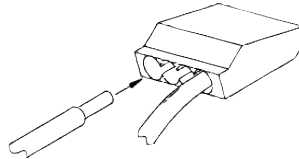

Figure 7
5. Connect supply (house) wires to fixture wires, push stripped wires into appropriate connector: white to white and black to black and green to green or bare copper ground wire. See Figure 7.
Voir la Figure 7.